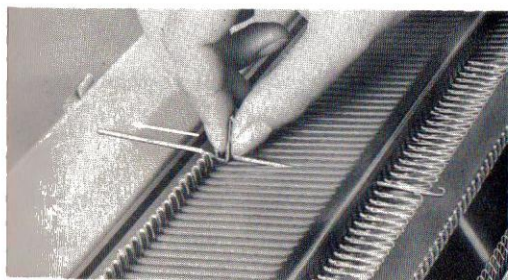

Fig. 4
- 5) Grasp the shank end and draw it out backwards. (See Fig. 4)